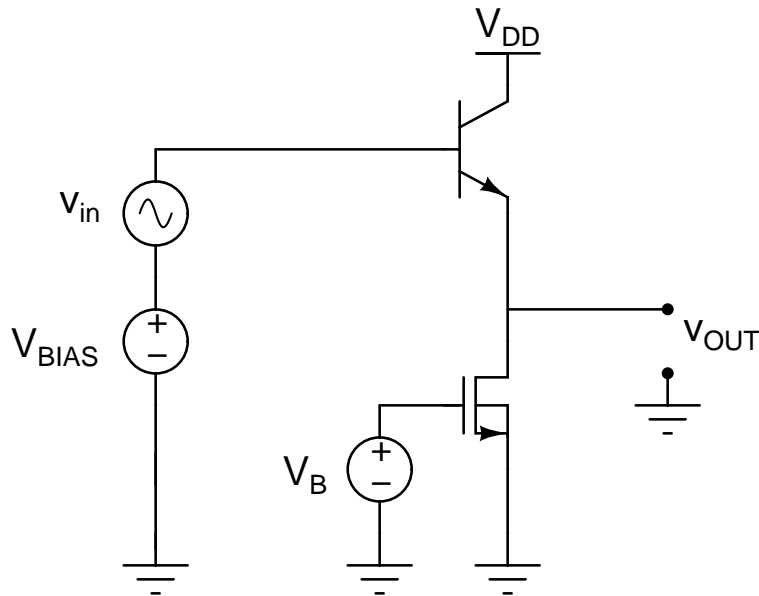

Figure 1: Schematic drawing of the common collector (also known as emitter follower) amplifier
In this assignment you will characterize both an npn-BJT and an NMOS transistor, and use the measurements to design a common collector (emitter follower) amplifier with an NMOS current source, shown in Figure 1. In the design, you will choose the bias voltage V_B of the NMOS current source and the DC bias voltage, V_{BIAS} , in order to meet the following specs.
1. (Small Signal - 30 points) To help you determine the bias voltages, for the amplifier circuit of Figure 1, write down the equations for the DC voltage gain (A_{vo}) and the input and output resistances (R_{in} , R_{out}) in terms of the parameters derived from the measurements (g_m , r_{oBJT} , r_{oMOS} , r_π). Do not make simplifying assumptions (i.e. include effect of r_o)